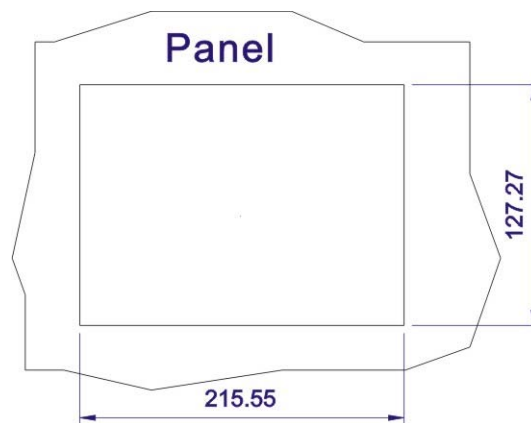
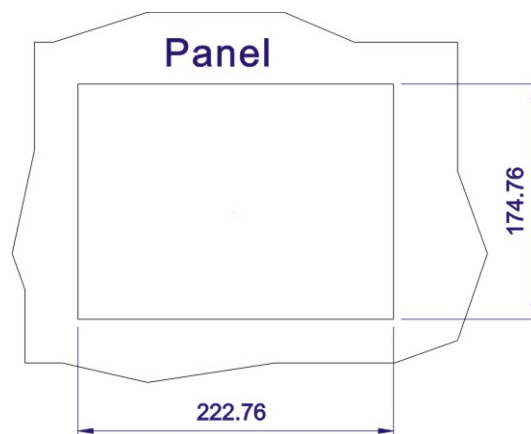
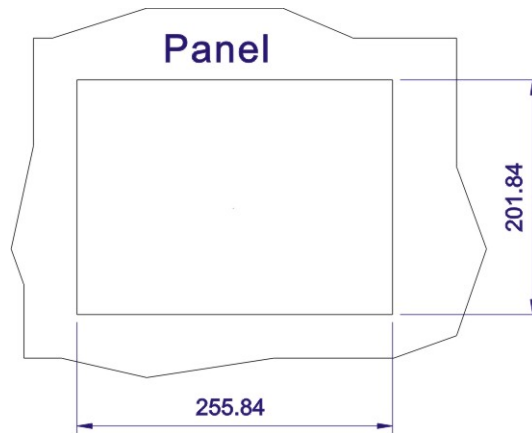
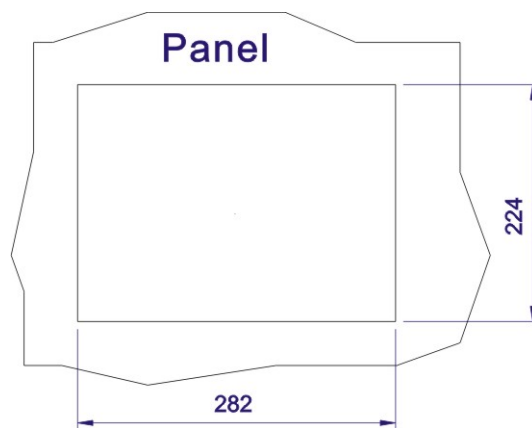

Figure 4-15: AFL-07A-N270 Panel Opening
Figure 4-16: AFL-08AH-N270 Panel Opening
Figure 4-17: AFL-10A-N270 Panel Opening
Figure 4-18: AFL-12A-N270 Panel Opening
Step 2: Cut out a section from the panel that corresponds to the rear panel dimensions of the flat panel PC. Take care that the panel section that is cut out is smaller than the overall size of the frame that surrounds the flat panel PC but just large enough for the rear panel of the flat panel PC to fit through (see **Figure 4-15**, **Figure 4-16**, **Figure 4-17** and **Figure 4-18**).